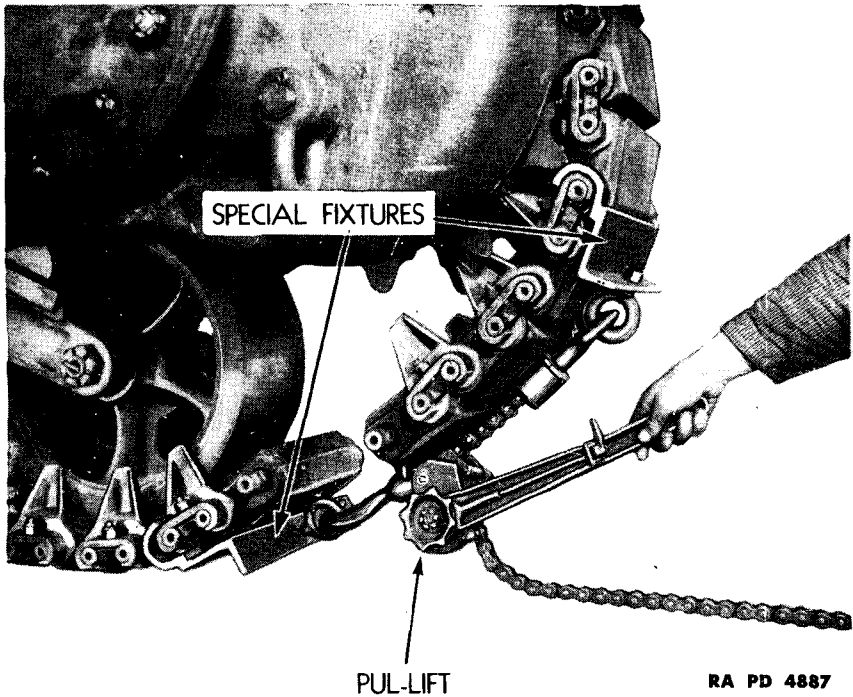

FIGURE 95 — PULLING ENDS OF TRACK TOGETHER
(16) Replace tracks (figs. 94, 95, 97 and 98.) The tracks are too heavy to be pulled up over sprockets by hand. Attach them to a truck by rope or chain and pull up meshing into teeth of sprockets. When tracks have been pulled well over sprockets, unfasten rope or chain. Hook special angle iron fixtures (figs. 95, 97 and 98) onto track, attach a Pul-lift to eyebolts and pull ends of track together. Drive end connections onto inside and outside ends of